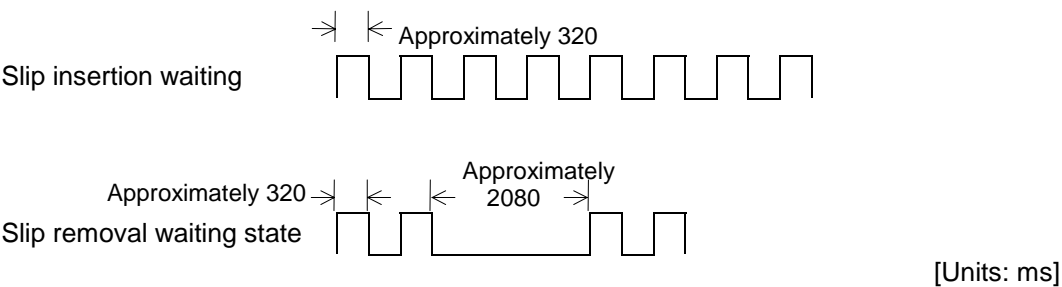

Figure 3.4.3 CUT SHEET LED Flashing Pattern
- Flashing: Cut sheet insertion / removal waiting state (refer to Figure 3.4.3).